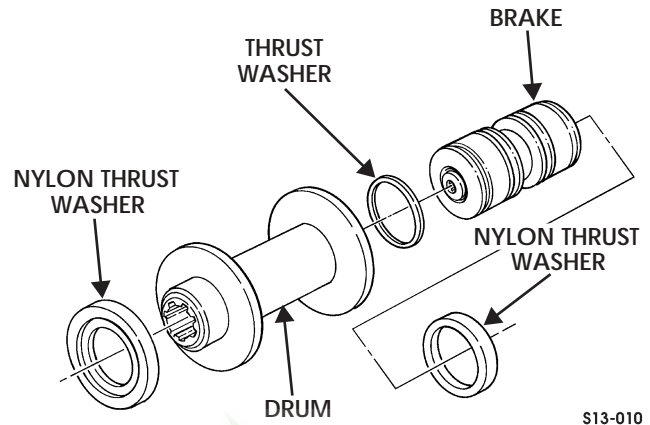

Figure 13-8: Thrust Washers and Brake
12. Remove two nylon thrust washers from drum (Figure 13-8).